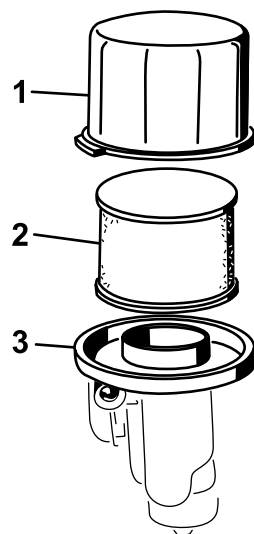

Figure 23
- 3. Remove the cover and clean it thoroughly (Figure 23).
- 4. Remove the foam pre-filter from the paper filter (Figure 23), and replace the paper filter if it is excessively dirty.